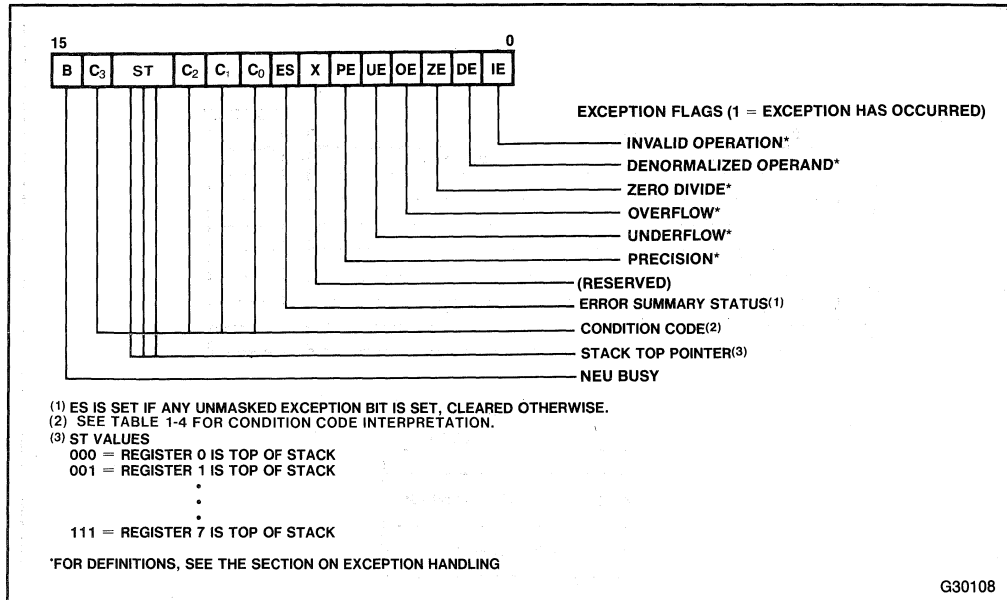

Figure 1-4. 80287 Status Word
The 16-bit status word shown in figure 1-4 reflects the overall state of the 80287. This status word may be stored into memory using the FSTSW/FNSTSW, FSTENV/FNSTENV, and FSAVE/FNSAVE instructions, and can be transferred into the 80286 AX register with the FSTSW AX/FNSTSW AX instructions, allowing the NPX status to be inspected by the CPU.
Figure 1-4 shows the six error flags in bits 0-5 of the status word. Bit 7 is the error summary status (ES) bit. ES is set if any unmasked exception bits are set, and is cleared otherwise. If this bit is set, the  $\overline{\text{ERROR}}$  signal is asserted. Bits 0-5 indicate whether the NPX has detected one of six possible exception conditions since these status bits were last cleared or reset.